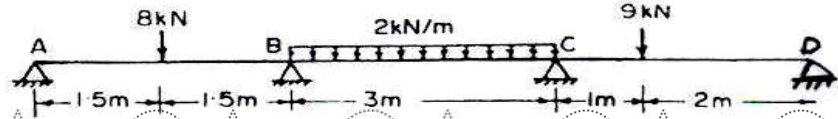

Figure 2
4. A horizontal beam ABCD is carried on hinged support and is continuous over the three equal spans each of 3m. All the supports are initially at the same level. The beam is loaded as shown in Figure 2. Plot the B.M.D and sketch the deflected shape of the beam if the support A settles by 10mm, B settles by 30mm and C settles by 10 mm. The moment of inertia is $2.4 \times 10^6 \text{ mm}^4$ units. Take $E=2 \times 10^5 \text{ N/mm}^2$ use Kani's Method. [10]